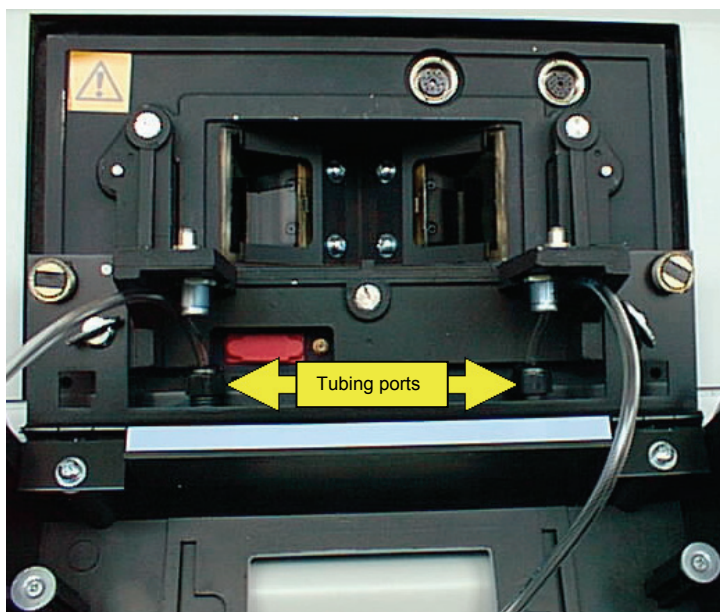

Figure 18 Tubing ports
1. Route the tubing into the sample area and onto the two tubing ports under the sample area door, as shown in Figure 18.